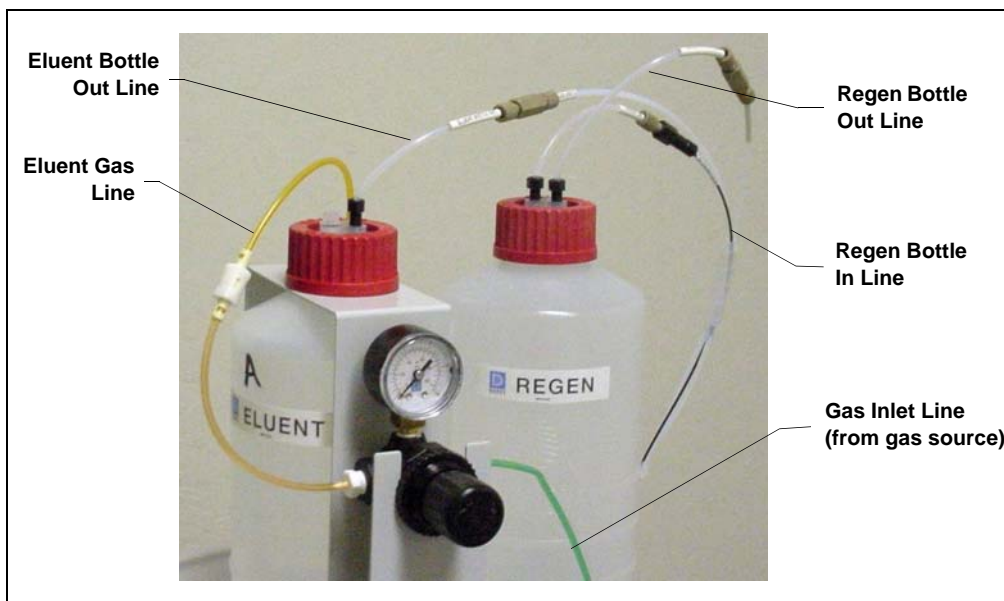

Figure B-16. Reservoir Connections
8. Connect the liquid lines from the ICS-90 to the lines exiting the eluent and regenerant reservoir caps (see Figure B-16) as follows: